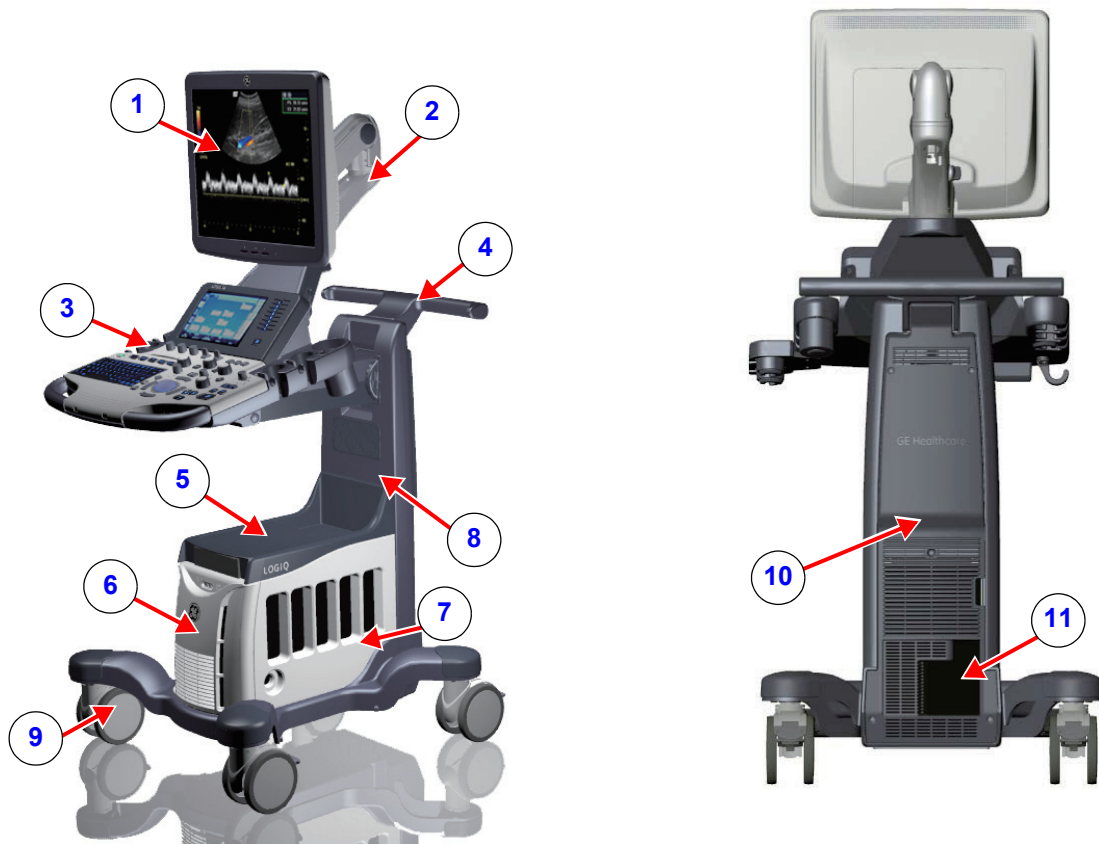

Figure 4-1 System Exterior
1.) Check for no loose or cracked parts on above locations. (see: Figure 4-1)